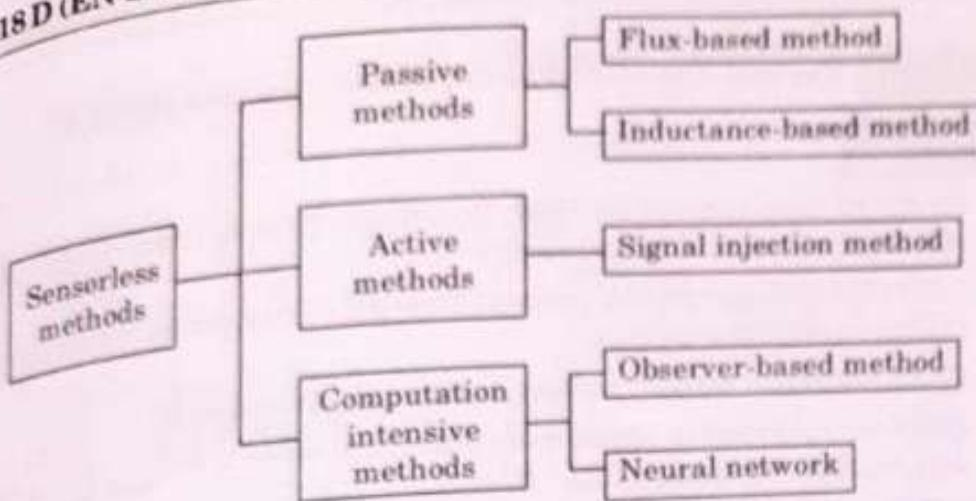

Fig. 3.10.1. Classification of position sensorless control schemes for SRM.
3. A diagram of classification of sensorless methods for SRMs is shown in Fig. 3.10.1. Passive rotor position estimation based on the measurement of terminal voltage and phase current of active phases does not require additional hardware and it does not generate additional power losses.